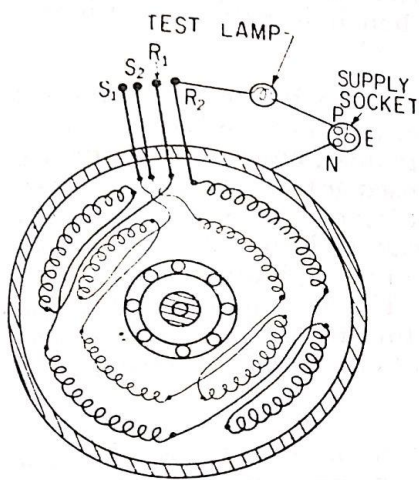

Fig. 6.83. Shows Earth Test on Running Winding.
2. **Earth Test on Running Winding or Main Winding.** By connecting one end of testing lead to the metal part of the machine and other end to any one end of running winding as shown in Figure 6.83, if the lamp gives light it is an earth fault.